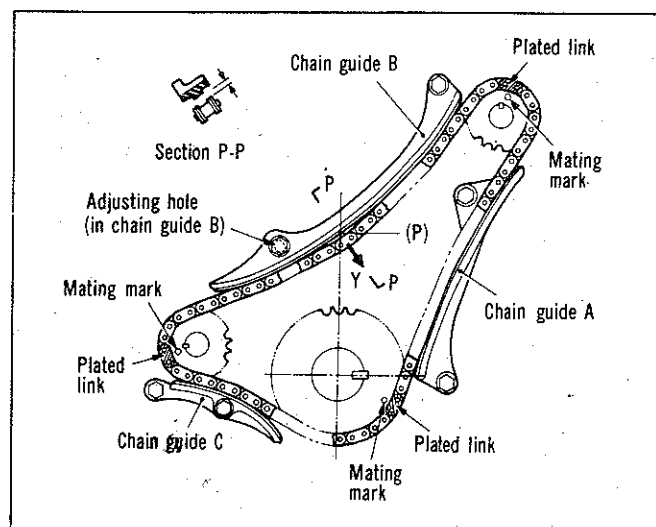

Fig. 33—Counter-balance shaft chain alignment and adjustment (early type chain guide B)
(3) Install the camshaft and crankshaft sprockets onto the timing chain with the sprocket mating marks aligned with the plated links on the chain.
(4) With the sprocket and chain mating marks aligned, install the crankshaft sprocket onto the crankshaft.
(5) Align camshaft dowel pin with the camshaft sprocket and install sprocket onto camshaft. Tighten sprocket bolt to the specified torque.
(6) Install the counter-balance shaft crankshaft sprocket "B".
(7) Install the two counter-balance shaft sprockets "B" onto chain "B" aligning the mating marks on the sprockets with the plated links on the chain. (Refer Fig. 33).
(8) While holding the chain and sprockets assembled as above, install the chain onto the crankshaft sprocket with the plated chain link aligned with the mating mark on the crankshaft sprocket.
(9) Install the counter-balance shaft sprockets (onto the shaft) and oil pump driven gear at the same time.
(10) Install the sprocket retaining bolts and tighten to specification.
(11) Temporarily install chain guides "A", "B" and "C".
(12) Tighten the chain guide "A" mounting bolts.
(13) Tighten the chain guide "C" mounting bolts.
(14) Take-up all the chain slackness at point "P", Fig. 33. Adjust the chain guide "B", so that when the chain is pulled in the direction "Y" with finger tips, the clearance between the chain guide "B" and the chain links is 1,0 mm (0.040"). Tighten the chain guide bolts securely.
(15) Install the timing chain cover.